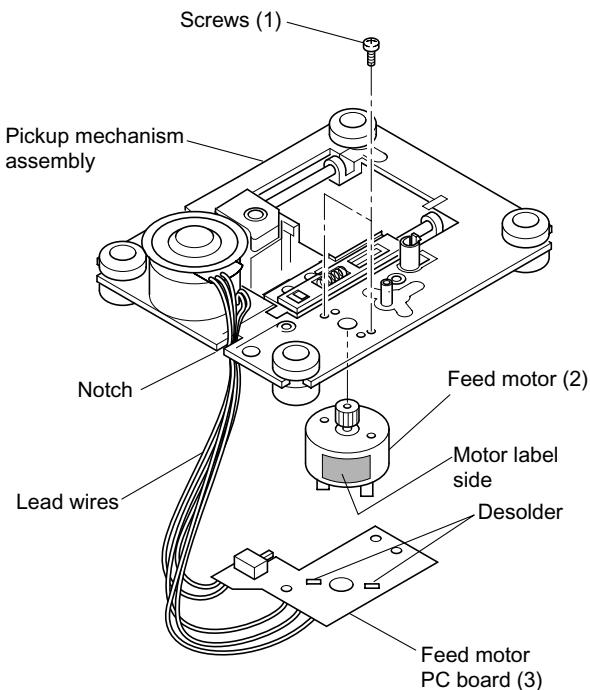

Fig. 2-1-23
(Refer to Fig. 2-1-23.)
- When replacing the loading motor, meet the polarity phase of the terminals. (Mount the motor with the label positioned as shown in Fig. 2-1-23.)